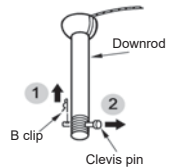

Fig.5
Step 1: Remove the clevis pin and B clip from downrod assembly.(Fig. 5)